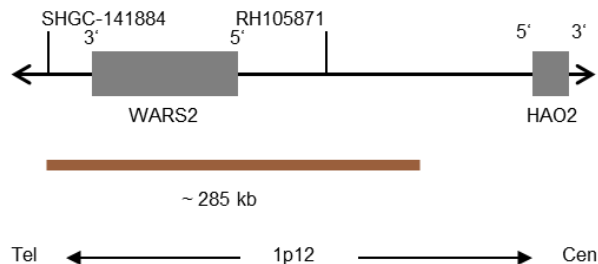

Fig. 1: SPEC 1p12 Probe map (not to scale)
- Digoxigenin-labeled polynucleotides (~1.8 ng/ $\mu$ l), which target sequences mapping in 1p12\* (chr1:119,537,082-119,664,354 [...] 119,712,804-119,823,167) (see Fig. 1).